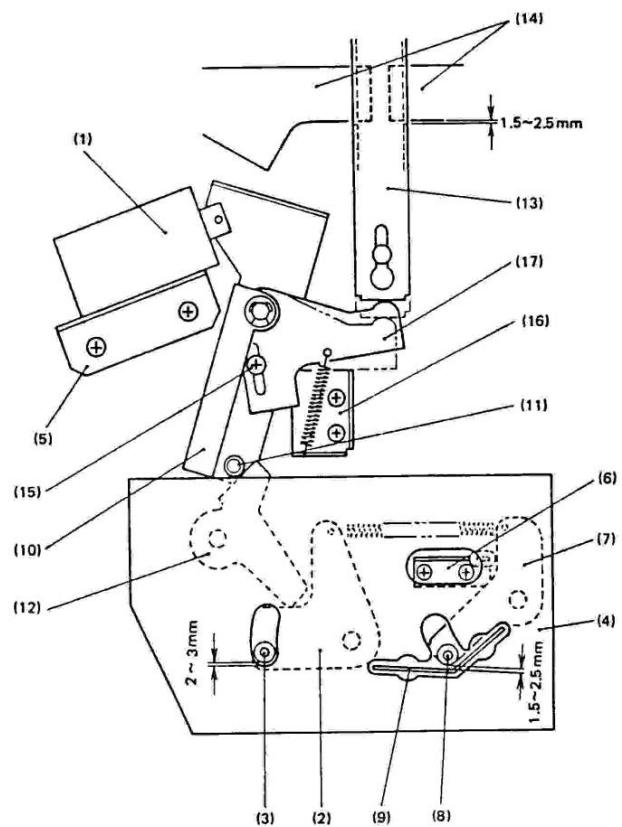

Fig. 5.6
NOTE: a) Referring to Fig. 5.6, loosen the two screws holding Bracket Stopper (16), shift the Bracket Stopper downward, and tighten the two screws previously loosened.
a) Referring to Fig. 5.6, with the solenoid (1) plunger bottomed, the solenoid bracket (5) position is adjusted so that the gap between the rubber sleeve on the lifter pin (3) and the lower part of the perpendicular hole in the base guide (4) is $2 \sim 3$ mm.
b) With the plunger still bottomed as before, the lifter stopper (6) is moved left or right so that the gap between the rubber sleeve on the lifter pin (8) on the lifter arm (7) and the shield plate (9) is $1.5 \sim 2.5$ mm.
c) With the plunger of solenoid (1) bottomed, push Lever (17) upward by 5mm, then tighten screw (15).